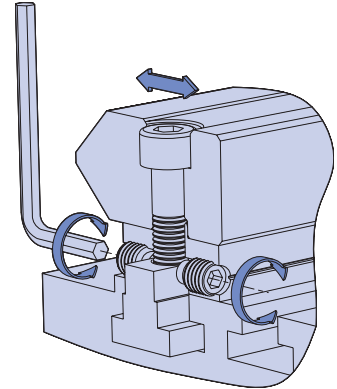

Fig 1.
- HLN back plates will be supplied with tapped holes and M8 dog point socket set screws to ISO 4028 for customers requiring the jacking screw alignment facility. Hole configuration 'B' denotes jacking screw positions corresponding with fixing hole positions, necessary when used in conjunction with the construction beams (see figure 1). Hole configuration 'A' denotes jacking screw positions mid way between fixing hole positions and is for general use where customers provide their own center key section or use Hepco alignment dowel pins SDPA as shown in figure 2.